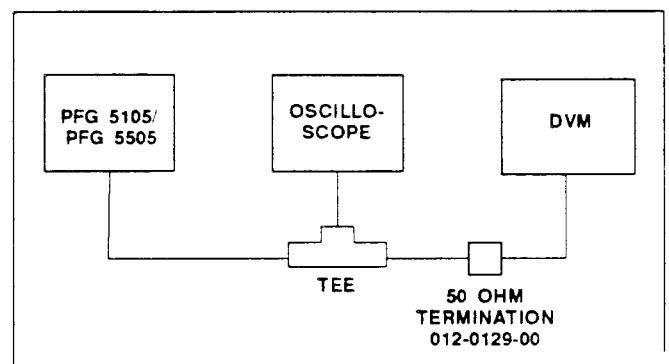

Fig. 3-3. Amplitude Adjustment Connections.
a. Connect the DVM (set to measure dc volts) and the oscilloscope vertical input to the PFG OUTPUT with the precision 50 Ω coaxial cable, the BNC T-connector, the second precision 50 Ω coaxial cable, and the precision 50 Ω feedthrough termination (see Fig. 3-3).
a. Connect the DVM (set to measure ac_{rms} volts) and the oscilloscope vertical input (set to dc) to the PFG OUTPUT with the precision 50 Ω coaxial cable, the BNC T-connector, the second precision 50 Ω coaxial cable, and the precision 50 Ω feedthrough termination (see Fig. 3-3).
a. Connect the digital voltmeter (set to measure V_{rms}) and the oscilloscope vertical input to the PFG OUTPUT with the precision 50 Ω coaxial cable, the BNC T-connector, the second precision 50 Ω coaxial cable, and the precision 50 Ω feedthrough termination (see Fig. 3-3).